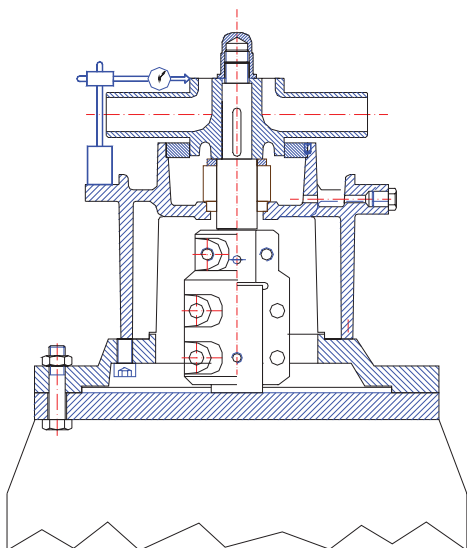

Figure 3
8. Connecting a magnetic comparator to the adaptor as shown in Figure 3, check the shaft and face runout on the front wear ring. In this way, the maximum allowable shaft runout shall be 0.05 mm. If the runout is more than the maximum allowable value, by loosening the bolts of the rigid coupling a little bit and then hitting slightly the shaft nut, ensure that shaft runout is removed. Then, screw the rigid coupling bolts securely. At this instance, you can also align the position of the impeller in the axial direction